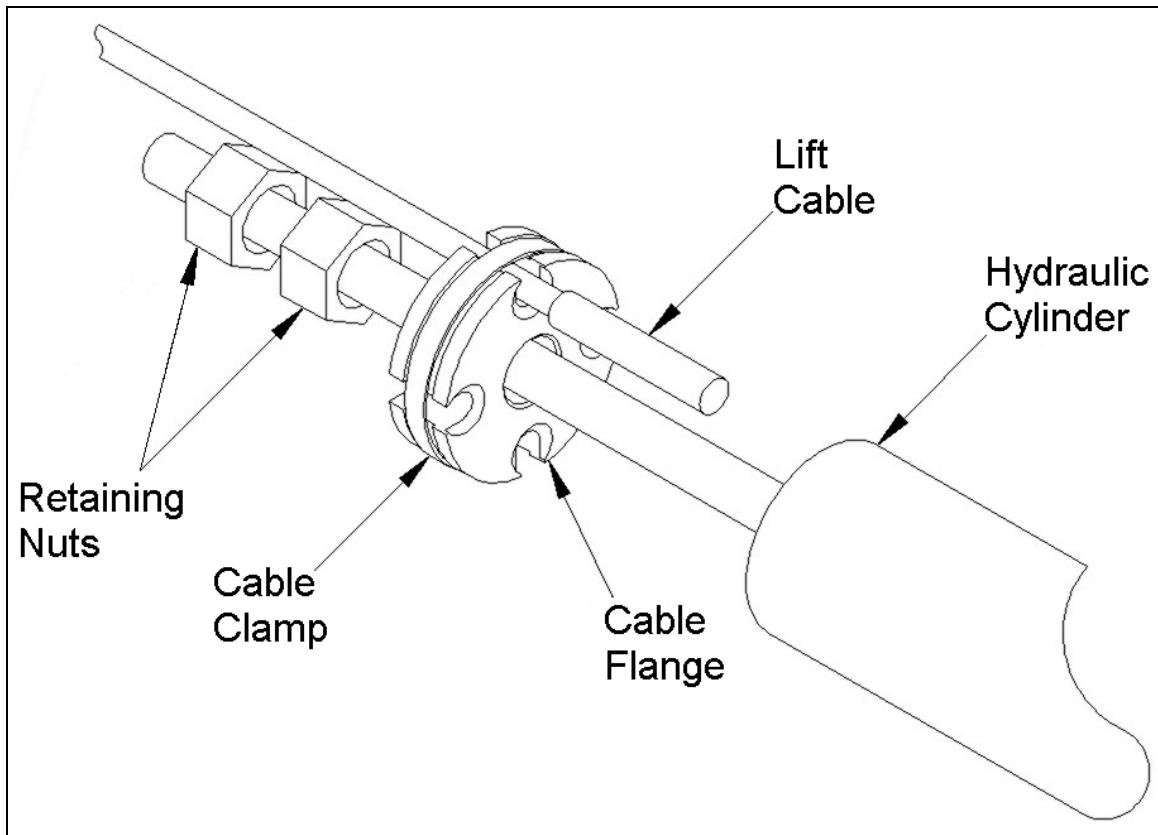

Figure 12. Cable Installation at Flange
- Remove the clamp from the cable flange. Ensure that the cable flange is installed with the counterbores facing towards the hydraulic cylinder as shown in Figure 12 and install the cables.
- Tighten the hose clamp on the cable flange to secure all the cables. Ensure that the two retaining nuts are positioned as shown in Figure 12. Using two wrenches, lock the retaining nuts against each other.